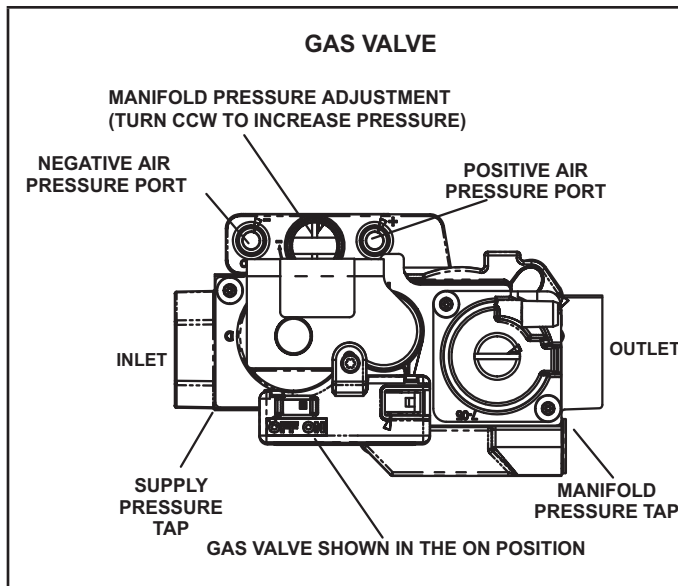

FIGURE 16
The valve (Figure 16) is internally redundant to assure safety shut-off. If the gas valve must be replaced, the same type valve must be used.
- 6 - Turn switch on gas valve to OFF. Do not force. See figure 16.
- 8 - Move switch on gas valve to ON. Do not force. See Figure 16.
A port on the inlet side of the gas valve provides access to the supply pressure tap. See figure 16. Loosen the screw and connect a manometer to measure supply pressure. The minimum supply line pressure is 4.5" - 13.0"w.c. for natural and 11.0 - 13.0" wc for LP/Propane. Tighten after measurements have been taken.